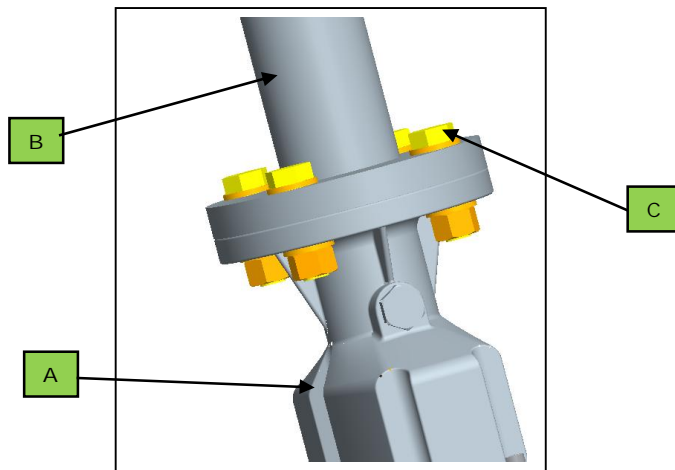

Fig. 11
**First step:** Remove the tape from the entry/exit air zones. Fix the upper flange (Fig.11/A) on the flange of the pipe from the conservator (Fig.11/B) with four M12 screws (Fig.11/C).